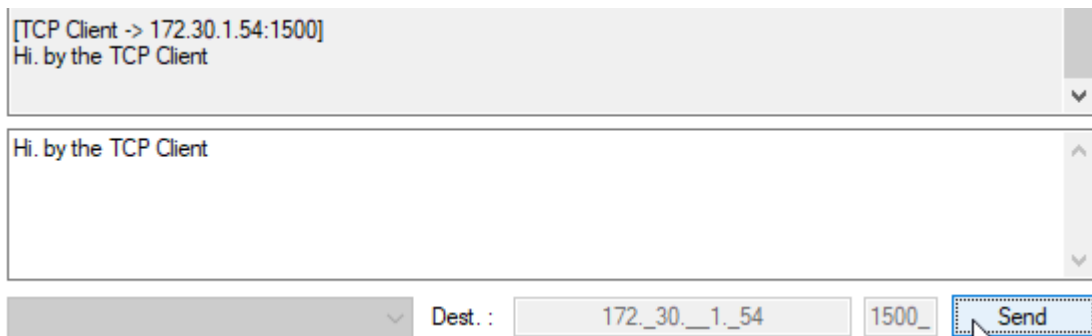

Figure 30: TCP Client Data Transfer
- **TCP Client:** Select the **TCP Client** checkbox > Type a message > Click the **Send** button (see Figure 30)